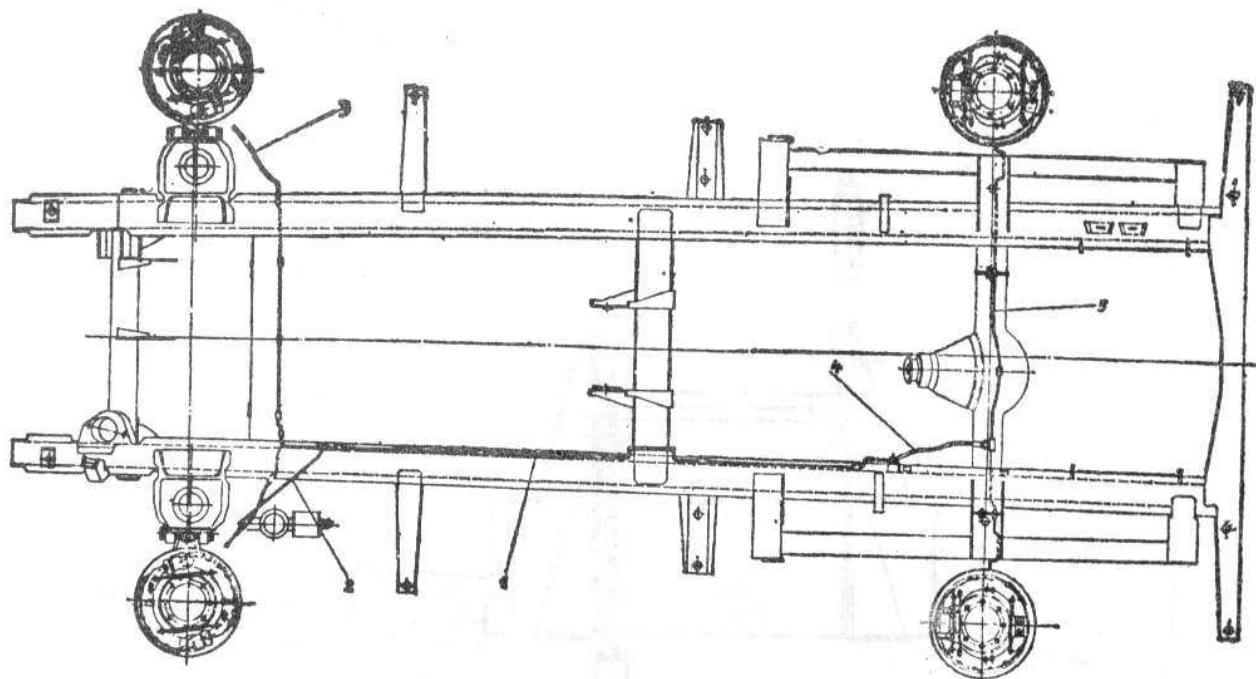

Fig. 4.147. MAIN BRAKE CONTROL HYDRAULIC SYSTEM
The hydraulic braking system consists of the control elements (foot pedal, brake master cylinder), braking elements (wheel brake cylinders, brake shoes) and connecting elements (pipes, flexible feed lines, connecting fittings, T-joints) (see Fig. 4.147). The foot pedal stroke up to the toe board is of 160 mm.
- Remove faulty pipes, unscrewing their connecting joints and removing pipes from under the clamps welded on chassis frame and on its middle cross member (see Fig. 4.147).